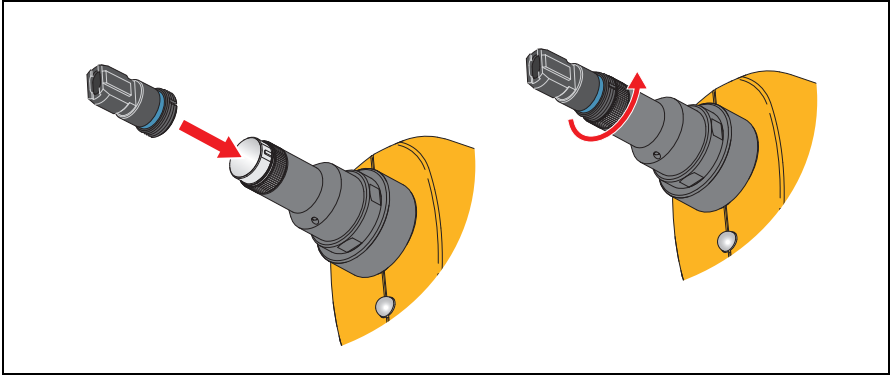

Figure 2. MPO Tip Attachment
1. Align the slot in the tip with the alignment pin on the end of the Probe. See Figure 2.